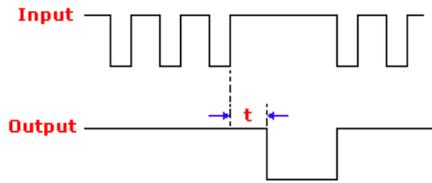

Fig. 4-1
*Fig. 4-1, Change in the input pulse frequency allows completion of the timing cycle. As a general rule, the monostable 'ON' time is set approximately 1/3 longer than the expected time between triggering pulses. Such a circuit is also known as a 'Missing Pulse Detector'.*